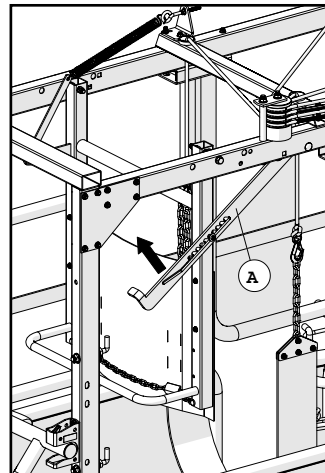

Figure 3: Back stop operation
3. To operate the back stop, lift the adjustment lever (a) and lift the back stop into the desired position (Figure 3).